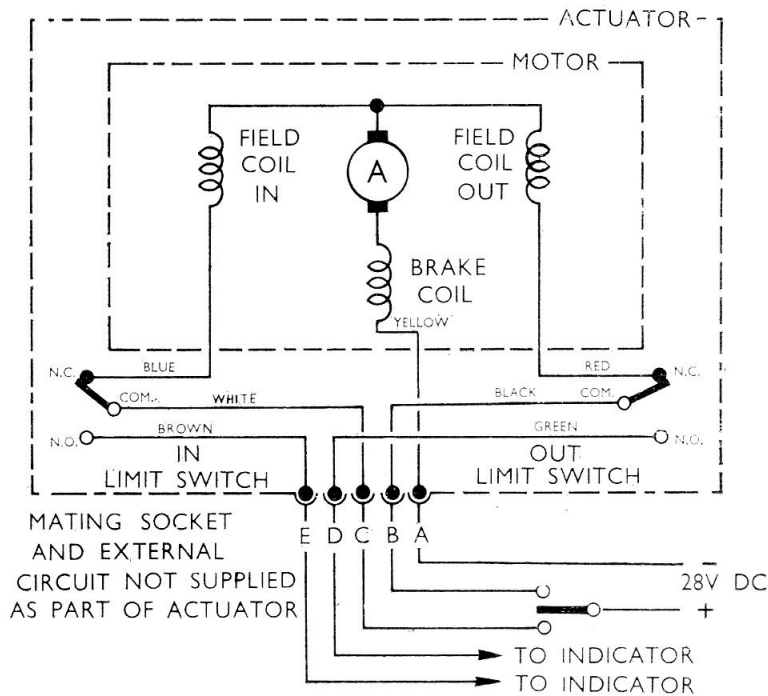

Fig. 4. Typical circuit diagram
16. The internal connections and a typical external circuit are shown in *Fig. 4*. In this example, connections are provided for a position indicator.